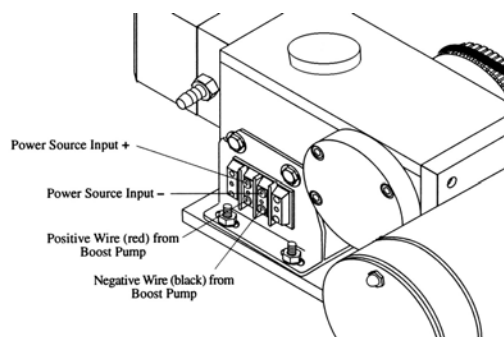

Figure 2.6: Little Wonder MODULAR (DC UNIT) Electrical Interface Views.
12 VDC units require 6 gauge wire and a 25 amp fuse or circuit breaker. Connect RO unit's power supply red wire (Positive +) from load side of unit's breaker, to power input on the **Little Wonder MODULAR's** terminal strip (Refer to Figure 2.6).
**Step 5:** With the DC units, connect the boost pump wires red and black to the same terminals at the side of the high pressure pump as shown in figure 2.6.